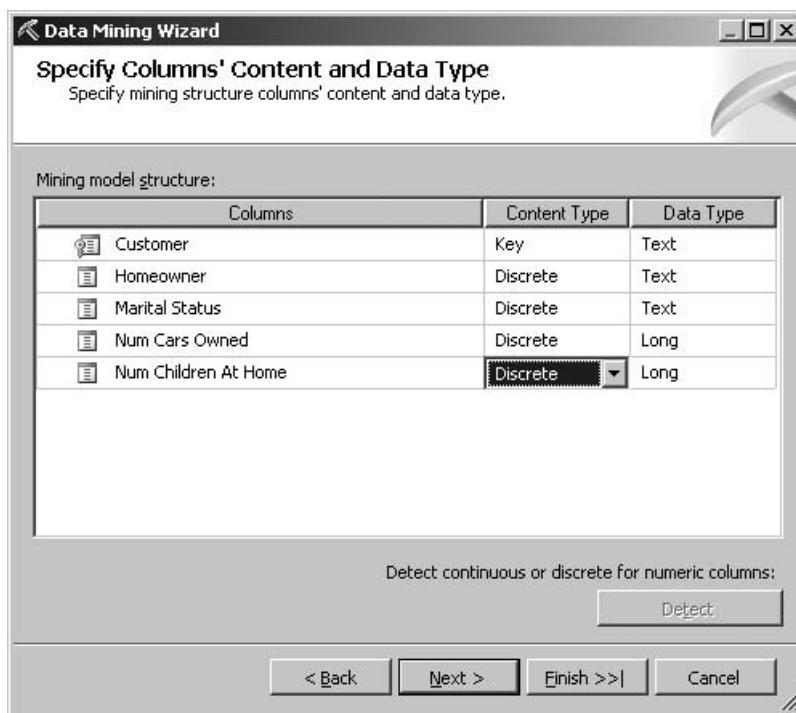

Figure 14-7 The *Specify Columns' Content and Data Type* page of the Data Mining Wizard
22. Change the Content Type for Num Cars Owned to Discrete. Change the Content Type for Num Children At Home to Discrete. The Specify Columns' Content and Data Type page appears as shown in Figure 14-7.